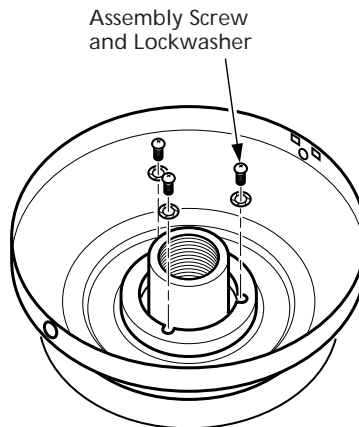

Figure 3d - Attaching Canopy to Fan Assembly
4. Attach the canopy tightly to the fan assembly with three #8-32 assembly screws and lockwashers as shown in Figure 3d.